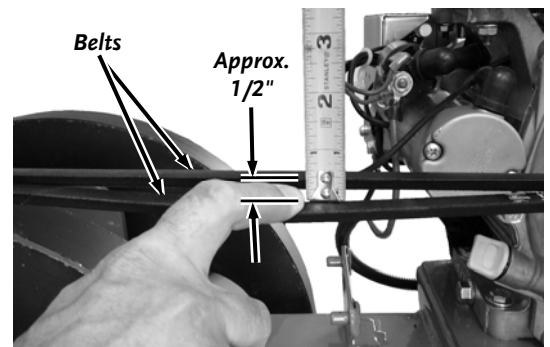

Figure 35
7. Adjust the Belt Tensioner by holding the Bolt head with one 9/16" Wrench while turning the Locknut with another 9/16" Wrench until there is 1/2" of slack in the Belt (**Figure 35**).